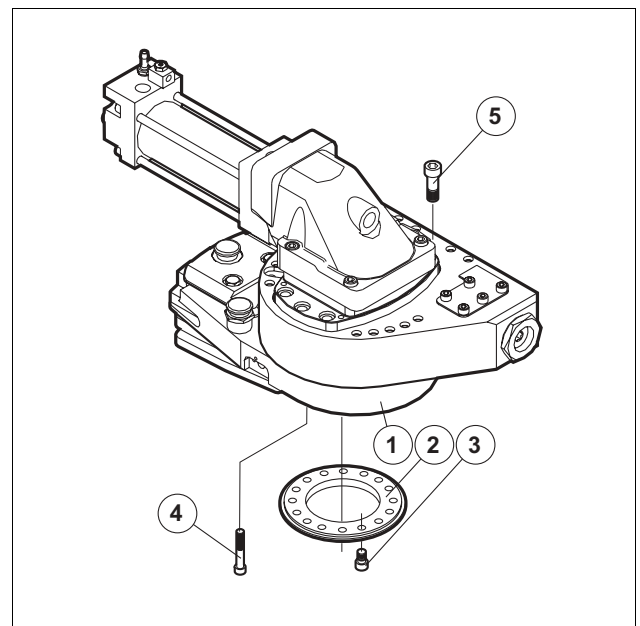

Fig. 35 Installing Saw Motor
6. Replace the two fasteners (4) for the tension device (1). See Fig. 35.
7. Install the fasteners (5) for the saw motor. See Fig. 35.
8. Install the fasteners for the washer (2). See Fig. 35.